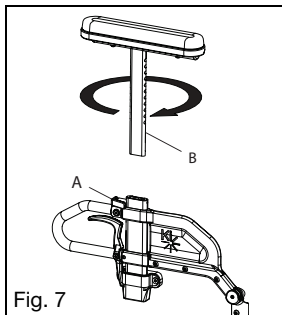

Fig. 7
- Pull the height adjustment lever (Fig. 7:A) and remove the upper T-Arm assembly (Fig. 7:B).
- Close the height adjustment lever (Fig. 7:A) to secure.